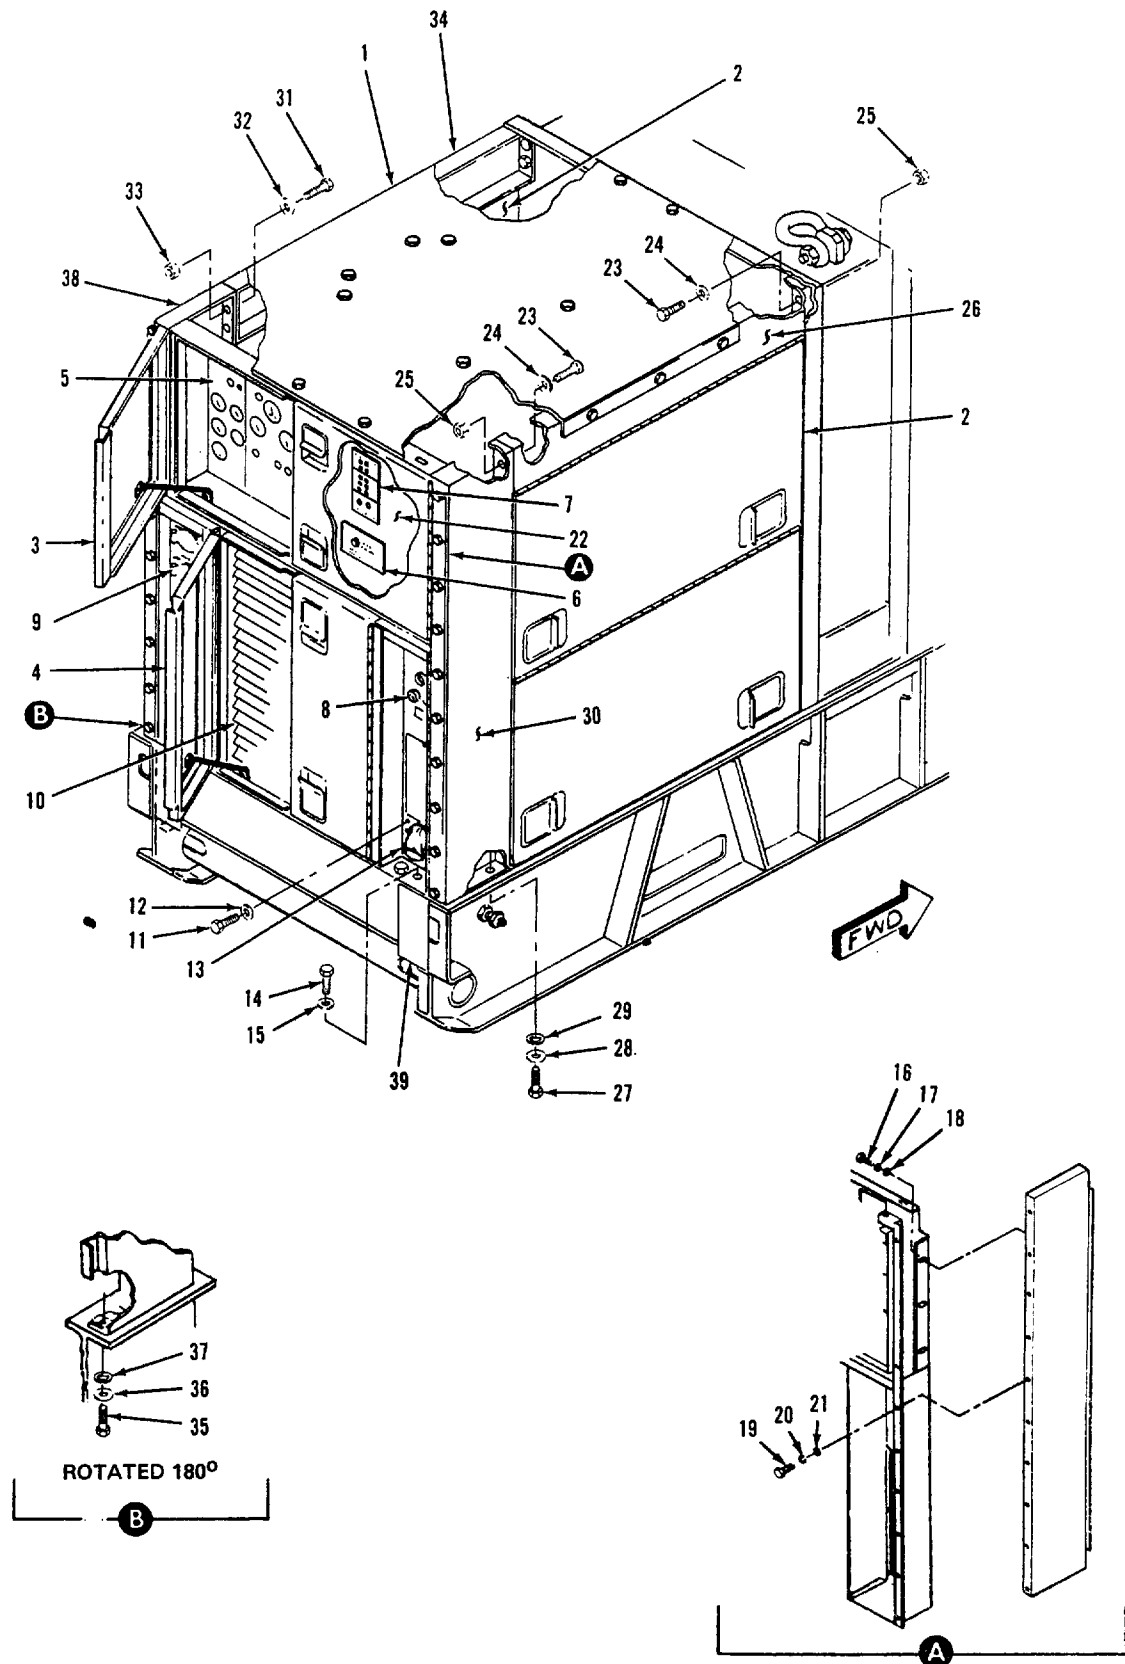

Figure 4-58. Replacement of Control Panel Supports
a. Remove rear housing cover (1, figure 4-58) in accordance with paragraph 4-22.
c. Remove control box assembly (5) in accordance with paragraph 4-43.
d. Remove DC circuit breaker (6) in accordance with paragraph 4-37.
e. Remove the fault indicator assembly (7) in accordance with paragraph 4-42.
f. Remove the manual speed control (8) in accordance with paragraph 4-59.
g. Remove the convenience receptacle assembly (9) in accordance with paragraph 4-78.
h. Remove the air intake louvers (10) in accordance with paragraph 4-26.
i. Tag and disconnect wires to plate and sleeve assembly (13). Remove screw (11) and lockwasher (12) to remove plate assembly (13).
j. Remove bolts (14) and lockwashers (15) and remove filler panels (39).
k. Remove screws (16 and 19), lockwashers (17 and 20), and washers (18 and 21) which secure control panel housing (22) to the control panel supports (30 and 38).
Legend for Figure 4-58.